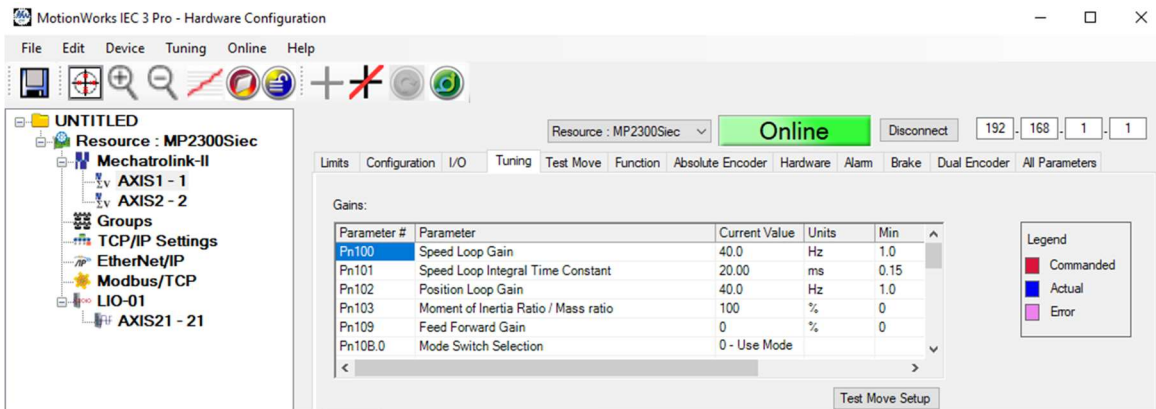

Figure 6: Tuning Tab
- Once successfully connected to the motors, make your way to the Tuning Tab as shown in Figure 6 and click the 'Test Move Setup' Button.